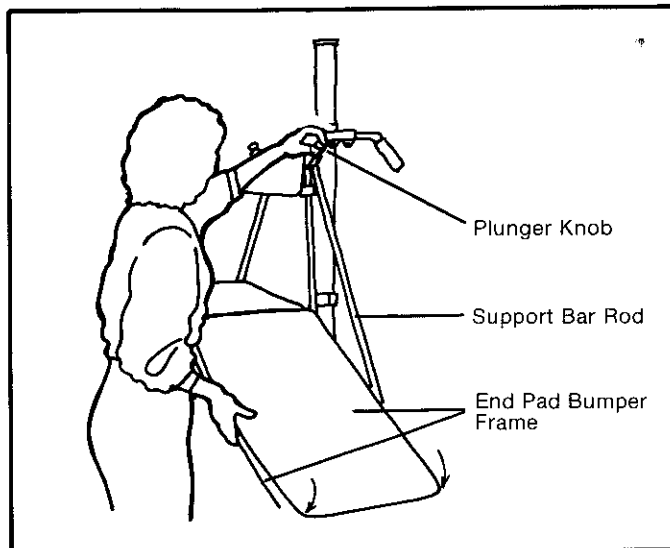

Figure 2-6
2. With hand supporting bumper frame end pad, Figure 2-6, pull plunger knob and let support bar